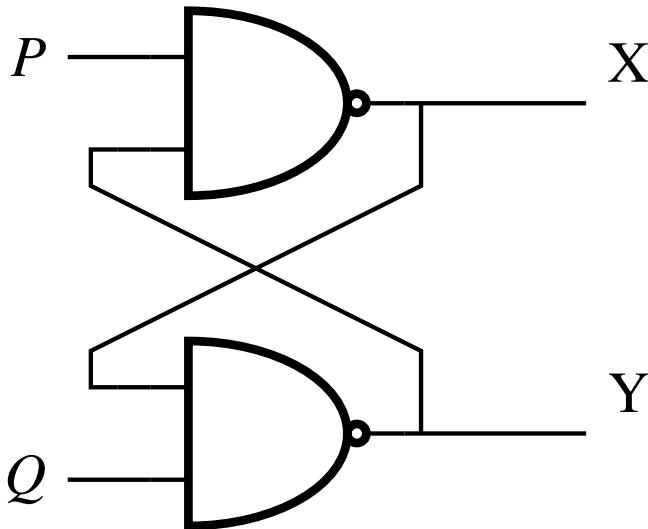

Fig. 5.32
36. In the latch circuit shown in Fig. 5.32, the NAND gates have non-zero but unequal